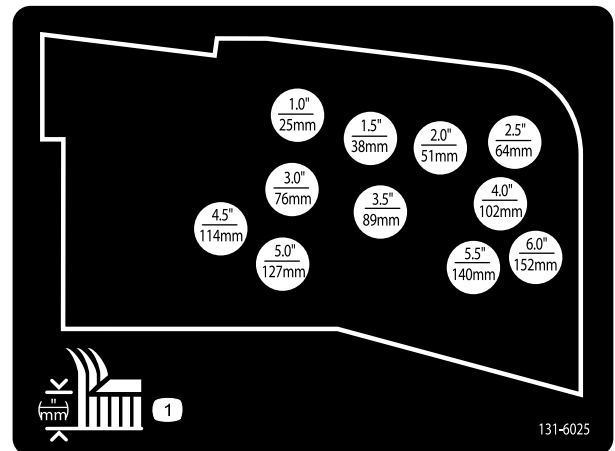

**Figure 18**
- 9. Remove the hairpin cotter and clevis pin securing the height-of-cut chains to the rear of the mower deck (Figure 18).